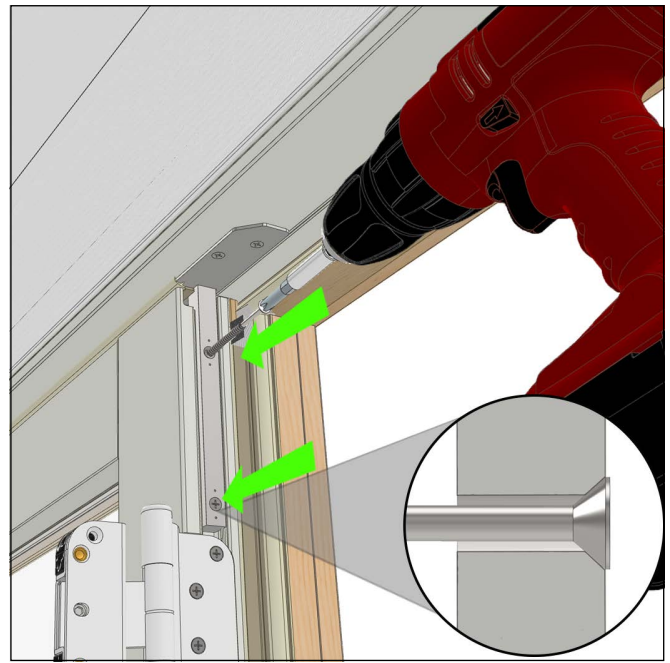

Figure 17
4. Install the 2-1/2" stainless flat head screw into the hole left by removing the panel screw. Drive until it sits flat with the lock bar face. Pre-drill and then fasten another 2-1/2" stainless screw into the other hole until it sits flat with the lock bar face. See Figure 17.